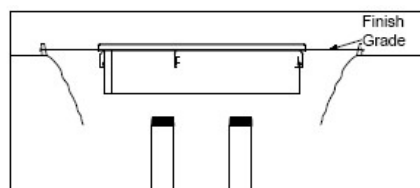

Figure 2
Test Figure 2
2. Set multi-port manhole assembly (skirt, ring, and cover) to 1 inch minimum (for slope) above the final grade position. The weight of the multi-port assembly must be supported when set into place, this may require a partial backfill and support structure. (See Figure 2.)
NOTE: Add an extra 3-1/4" when using an OPW FSA-400 and add an extra 1 3/4" when using the FSA-400S Face Seal Adaptor. (See Figure 2.) (Offset add extra 6"). Deburr and thoroughly clean riser pipe(s). Apply pipe dope to riser(s). The pipe dope is to be a non-hardening, gasoline resistant, pipe thread seal compound.